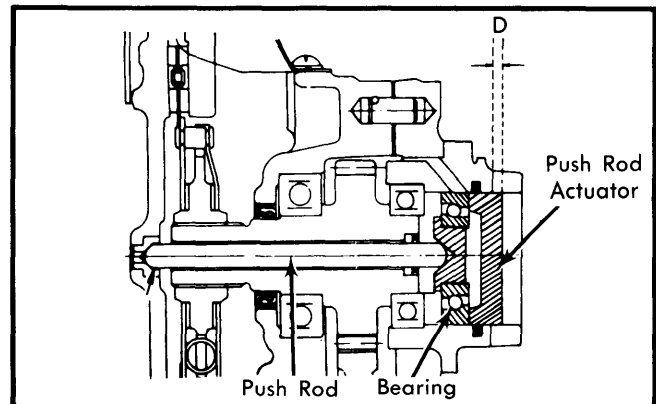

Fig. 3 Pressure Plate Push Rod Measurement
4) Using suitable measuring tool, measure height at "D". See Fig. 3. If height is not .020"-.098" (.5-2.5 mm), replacement push rods are available in lengths of 4.45" (113 mm), 4.49" (114 mm) and 4.53" (115 mm) to correct height at "D". Install clutch fork, rubber cover, pivot pin and retaining clip on bearing housing.